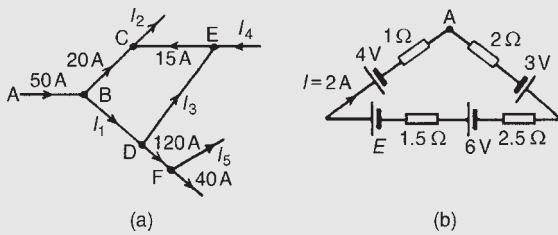

Figure 13.3
**Problem 1.** (a) Find the unknown currents marked in Fig. 13.3(a). (b) Determine the value of e.m.f.  $E$  in Fig. 13.3(b).
(i.e. in the opposite direction to that shown in Fig. 13.3(a))
(b) Applying Kirchhoff's voltage law and moving clockwise around the loop of Fig. 13.3(b) starting at point A: